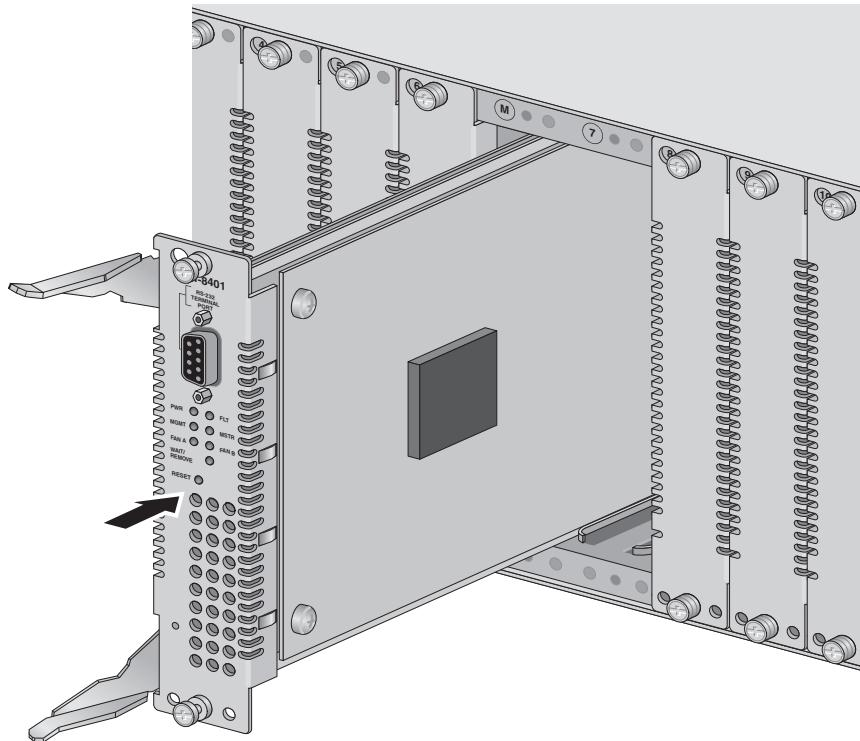

Figure 21 Sliding the Management Card into Slot M
3. Align the edge of the card with the top and bottom guide rails as you carefully slide the management card into slot M, keeping the locking levers in the released position as shown in the following diagram. Avoid touching the management card components. See Figure 21.